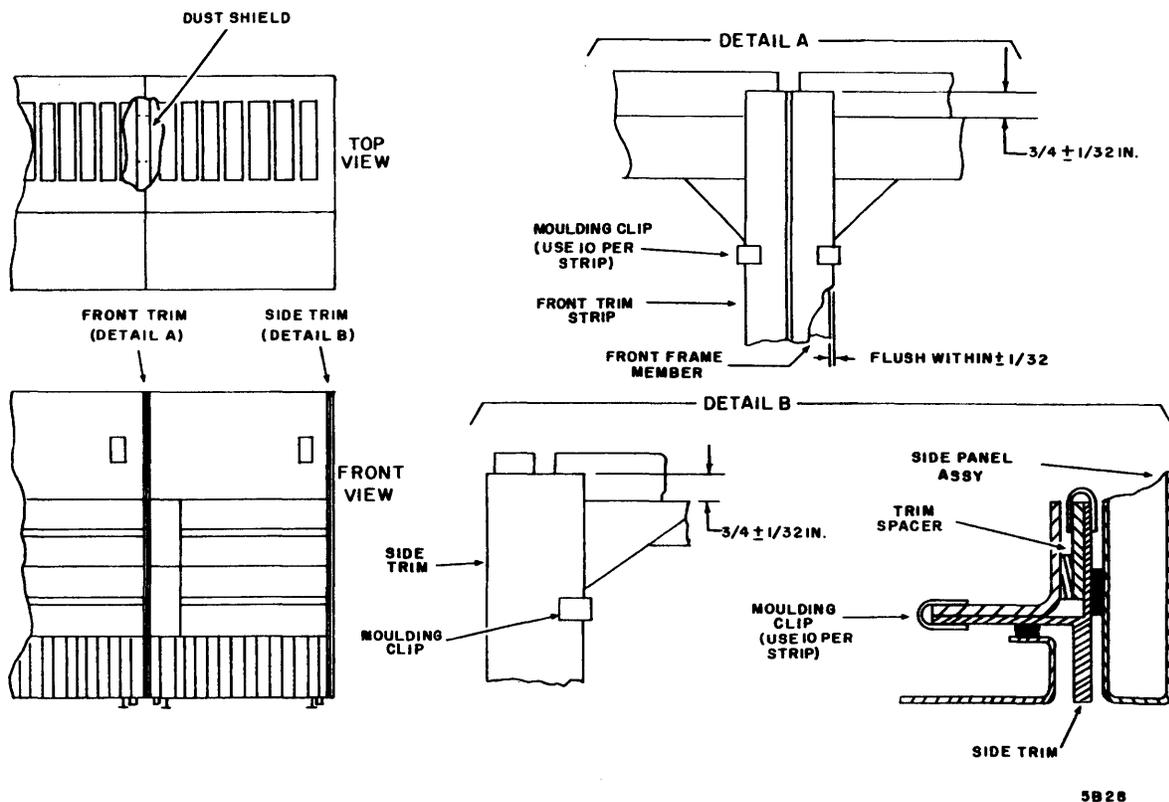

Figure 3-5. Trim and Dust Shield Installation
- b. Refer to Figure 3-5 and position front trim strip flat against front frame members and behind operator panel. Locate top end of trim strip as shown. Secure strip to frame placing moulding clips as near to top and bottom of strip as possible. Space six remaining clips equally between top and bottom pairs.
- c. Refer to Figure 3-5 and secure trim spacer to side trim with five equally spaced moulding clips. Locate top end of side trim as shown. Secure side trim to frame using five moulding clips spaced as in step b.
4. Remove all top panels. Position dust shield over top frame members as shown in Figure 3-5. Install top panels.